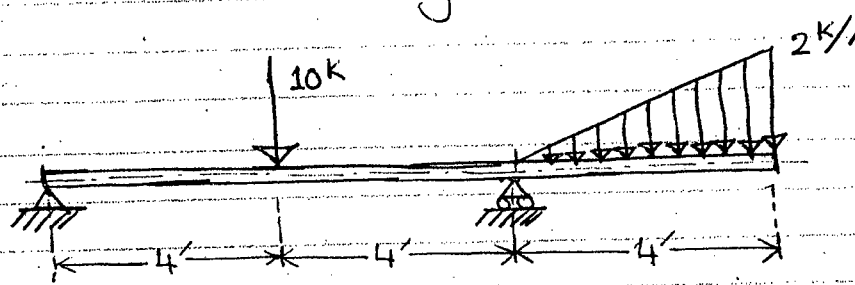

Fig. 4.
4. Draw shear force and bending moment diagram of the beam shown in Fig. 4. (14)